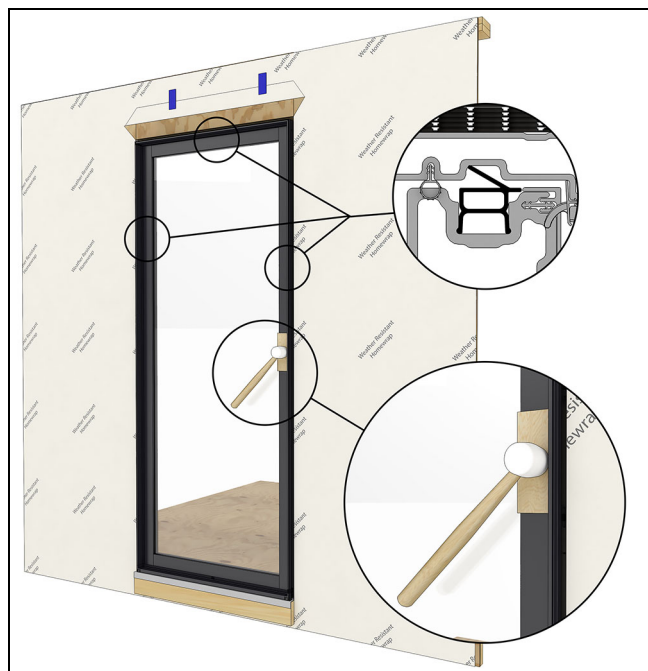

Figure 130
2. Set the panel onto the panel retainers with a rubber mallet. Start at the bottom. See Figure 130.